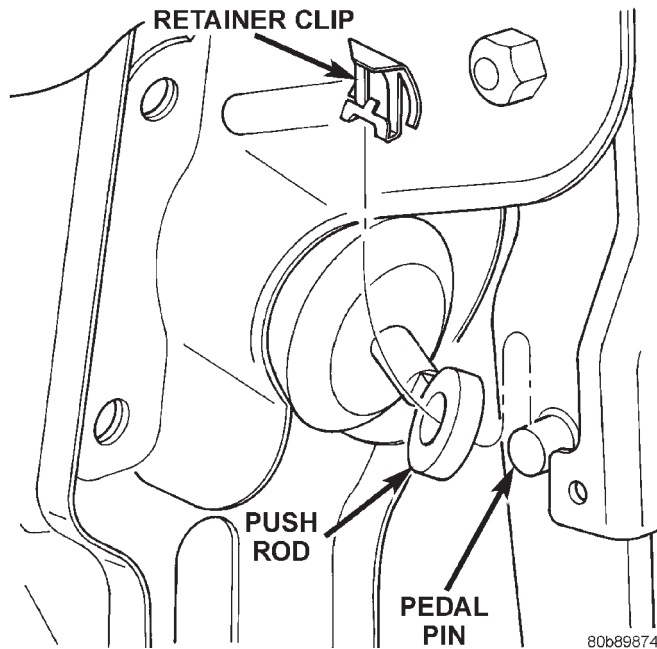

Fig. 21 Retainer Clip
- (1) Remove the master cylinder.
- (2) Disconnect vacuum hose at booster check valve.
- (3) Remove retainer clip (Fig. 21) that holds booster push rod on pedal pin. Then slide push rod off pin.